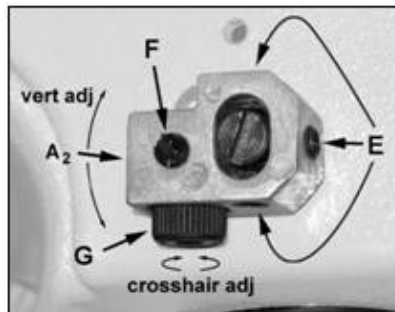

Fig 18
Manually rotate the laser assembly (A2, Fig 18), then carefully tighten the three setscrews (E).
Loosen laser set screw (F, Fig 18) and rotate laser (G) so the laser line (S) crosses the mark.